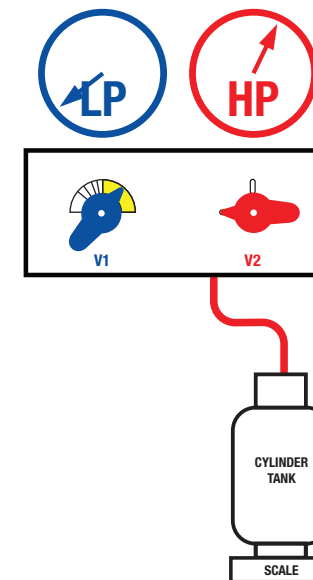

Figure 2
- 1) Connect the machine according to Figure 2.
- 2) Rotate the V2 valve to the PURGE position. See figure 2.